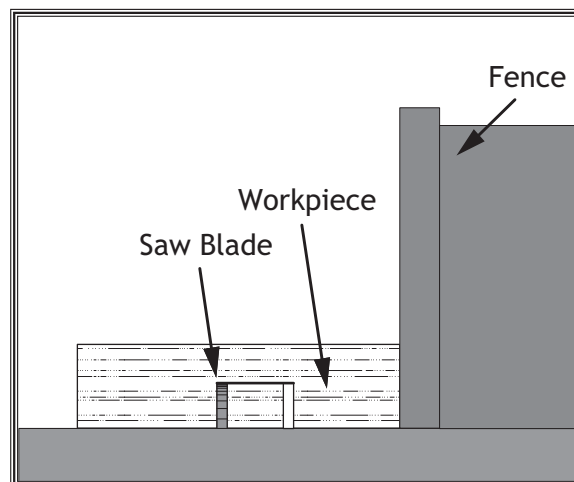

Figure 50. Single-blade dado second cut.
9. Re-adjust the fence so the blade is aligned with the other edge of the intended dado channel (**Figure 50**).